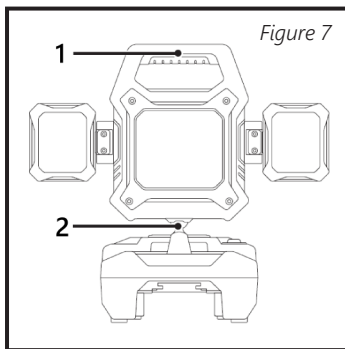

Figure 7
- The work light includes three (3) lighting pods that ship in a folded position. Expand the pods to an open position (Figure 7).